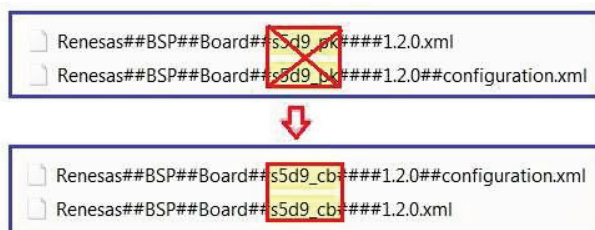

Figure 15. Replace the Existing BSP Name with Your BSP Name
11. On the project folder in your workspace, under **module_description** subfolder, use the default Windows search function to replace the original board name such as S5D9_PK with a new board name, which is **S5D9_CB** in the current project as shown in Figure 15.
Make a copy of the original board files of PK-S5D9 and rename them with the new board name as shown in Figure 15.